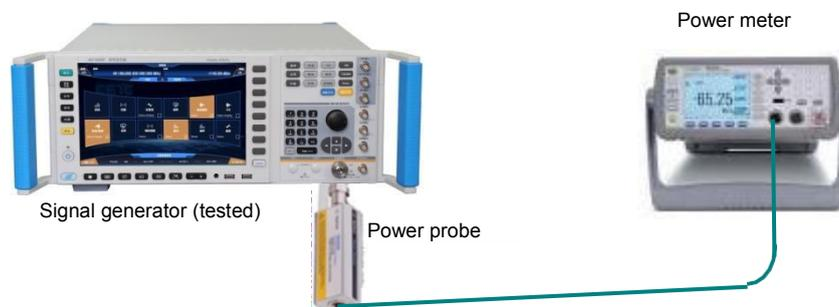

Fig.7.5 Maximum ALC Output Power Test
**Step 2. Connect the device as shown in Fig.7.5.**
**Step 2. Connect the device as shown in Fig.7.5, set the signal generator frequency to 100 kHz and the power to 0 dBm, and record the reading P1 of the power meter.**
The same as the Fig.7.5 and 7.6.
**Step 1. Connect the device as shown in Fig.7.5 and start and warm up for at least 30 minutes.**
**Step 1.** Connect the device as shown in Fig.7.5 and start and warm up for at least 30 minutes.